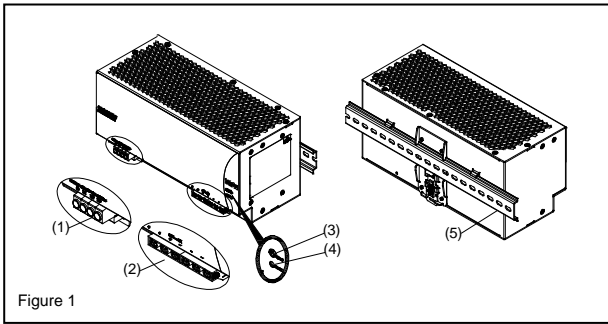
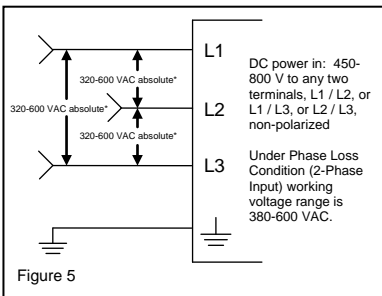

Figure 1
Figure 5
#### 2. Device description (Fig. 1)
#### 5.1. Input connection (Fig. 1, Fig. 5)
Use L1, L2, L3 and PE connections of input terminal connector to establish the 3 x 400-500 VAC connection. Fig. 5 shows the connection to the various network types (Recommend to use 4-core input cable for better EMI performance).
#### 5.2. Output connection (Fig. 1 (2))
Use the "+" and "-" screw connections to establish the 24Vdc connection. The output provides 24 VDC. The output voltage can be adjusted from 24 to 28 VDC on the potentiometer. The green LED DC OK displays correct function of the output (Fig. 1 (4)). The device has a short circuit and overload protection and an overvoltage protection limited to 35 VDC.